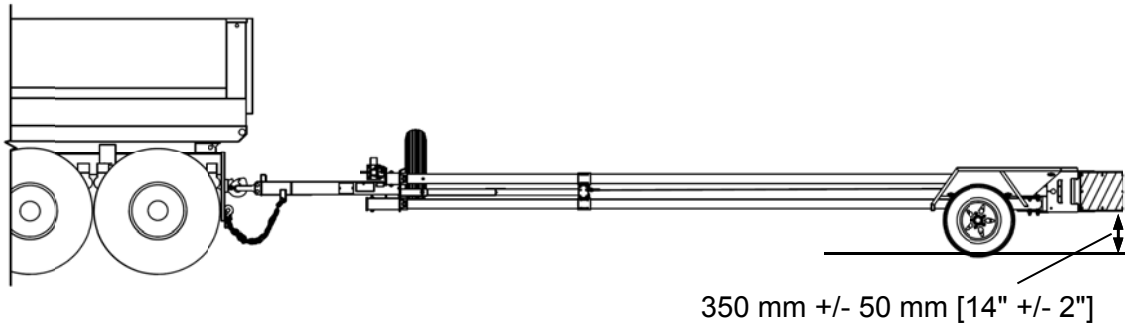

Figure 4
3. The Vorteq® Trailer TMA shall be securely fastened to the truck. On level ground, the bottom of the Impact Head shall be 350 mm +/- 50 mm [14" +/- 2"] from the ground and level (See Figure 4).